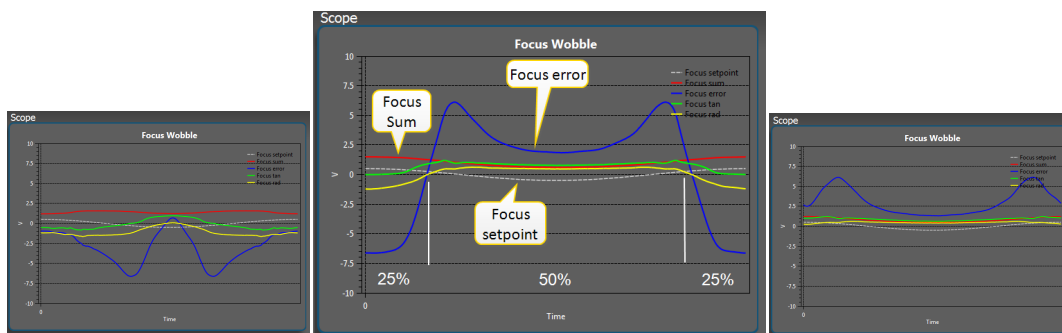

Figure 3-18 Test results: too high (l), good height (m), too low (r)
12. Carefully lower the Writing Module while watching the **Scope** window (Figure 3-18).
22. Click the **Step** buttons to move the Writing Module further down while watching the gray dotted line (the focus mechanical set-point) and the blue line (the focus error) in the **Scope** window, see Figure 3-18